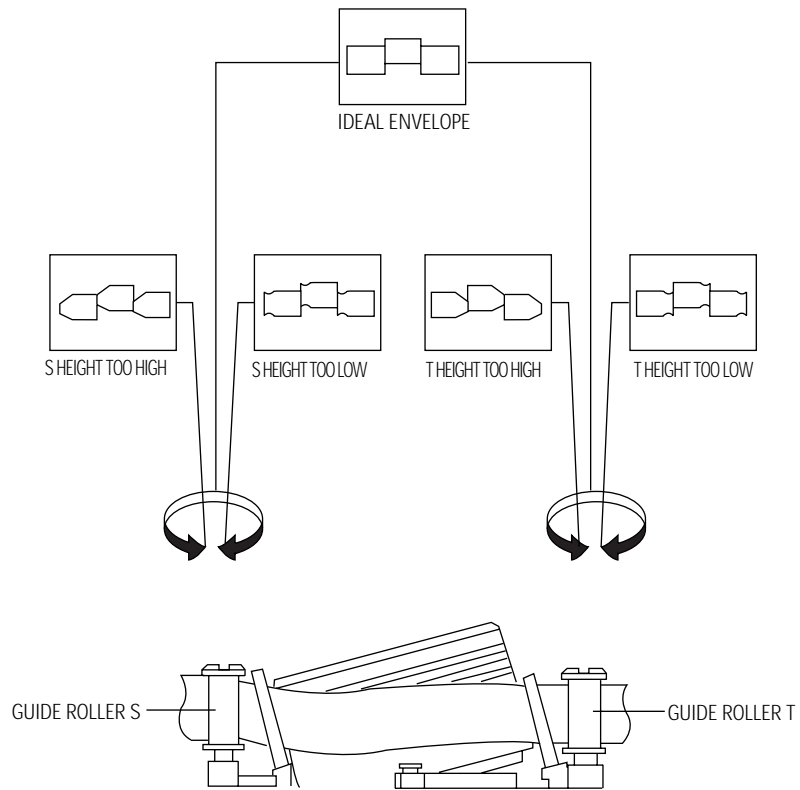

Fig. 2-16 Guide Roller S, T Height Adjustment
- 8) Turn the guide roller heads with a flat head () driver to obtain a flat video RF envelope as shown in Fig. 2-16.